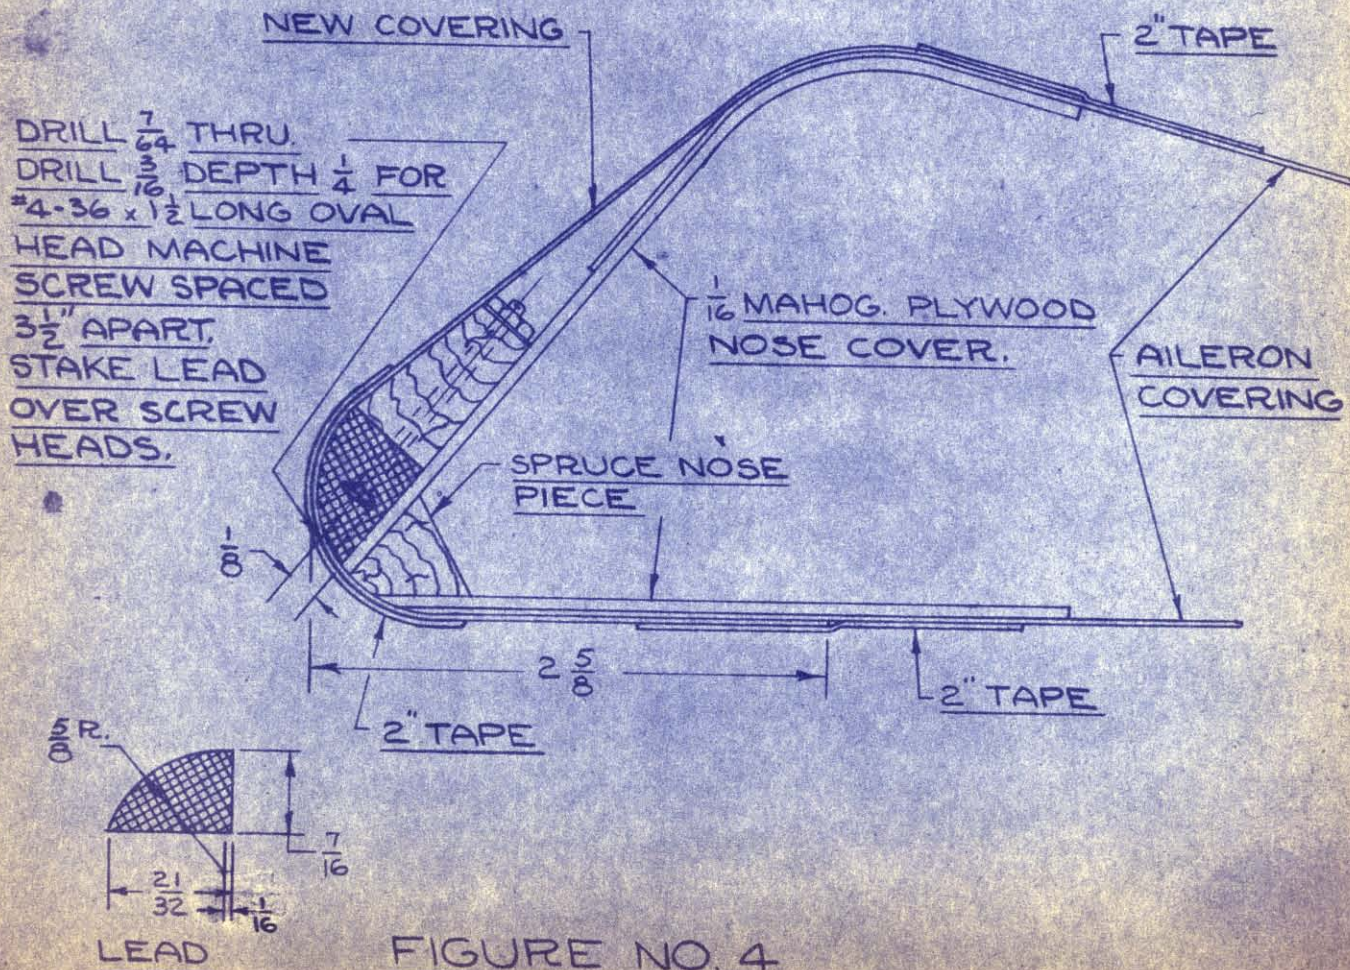

FIGURE NO. 4
2. After the balancing condition has been determined, prepare nose section for the addition of a new lead section and a wood fairing strip for the purpose of rounding the nose and balancing the aileron (See Figure No. 4). To do this proceed as follows:
- (b) Sand back on both sides of aileron for fabric to be added later over the reworked nose. See Figure No. 4.
5. Attach lead to glued on wood fairing strip with #4-36 1-1/2 long oval head machine screws, spacing 3-1/2 apart. See Figure No. 4.